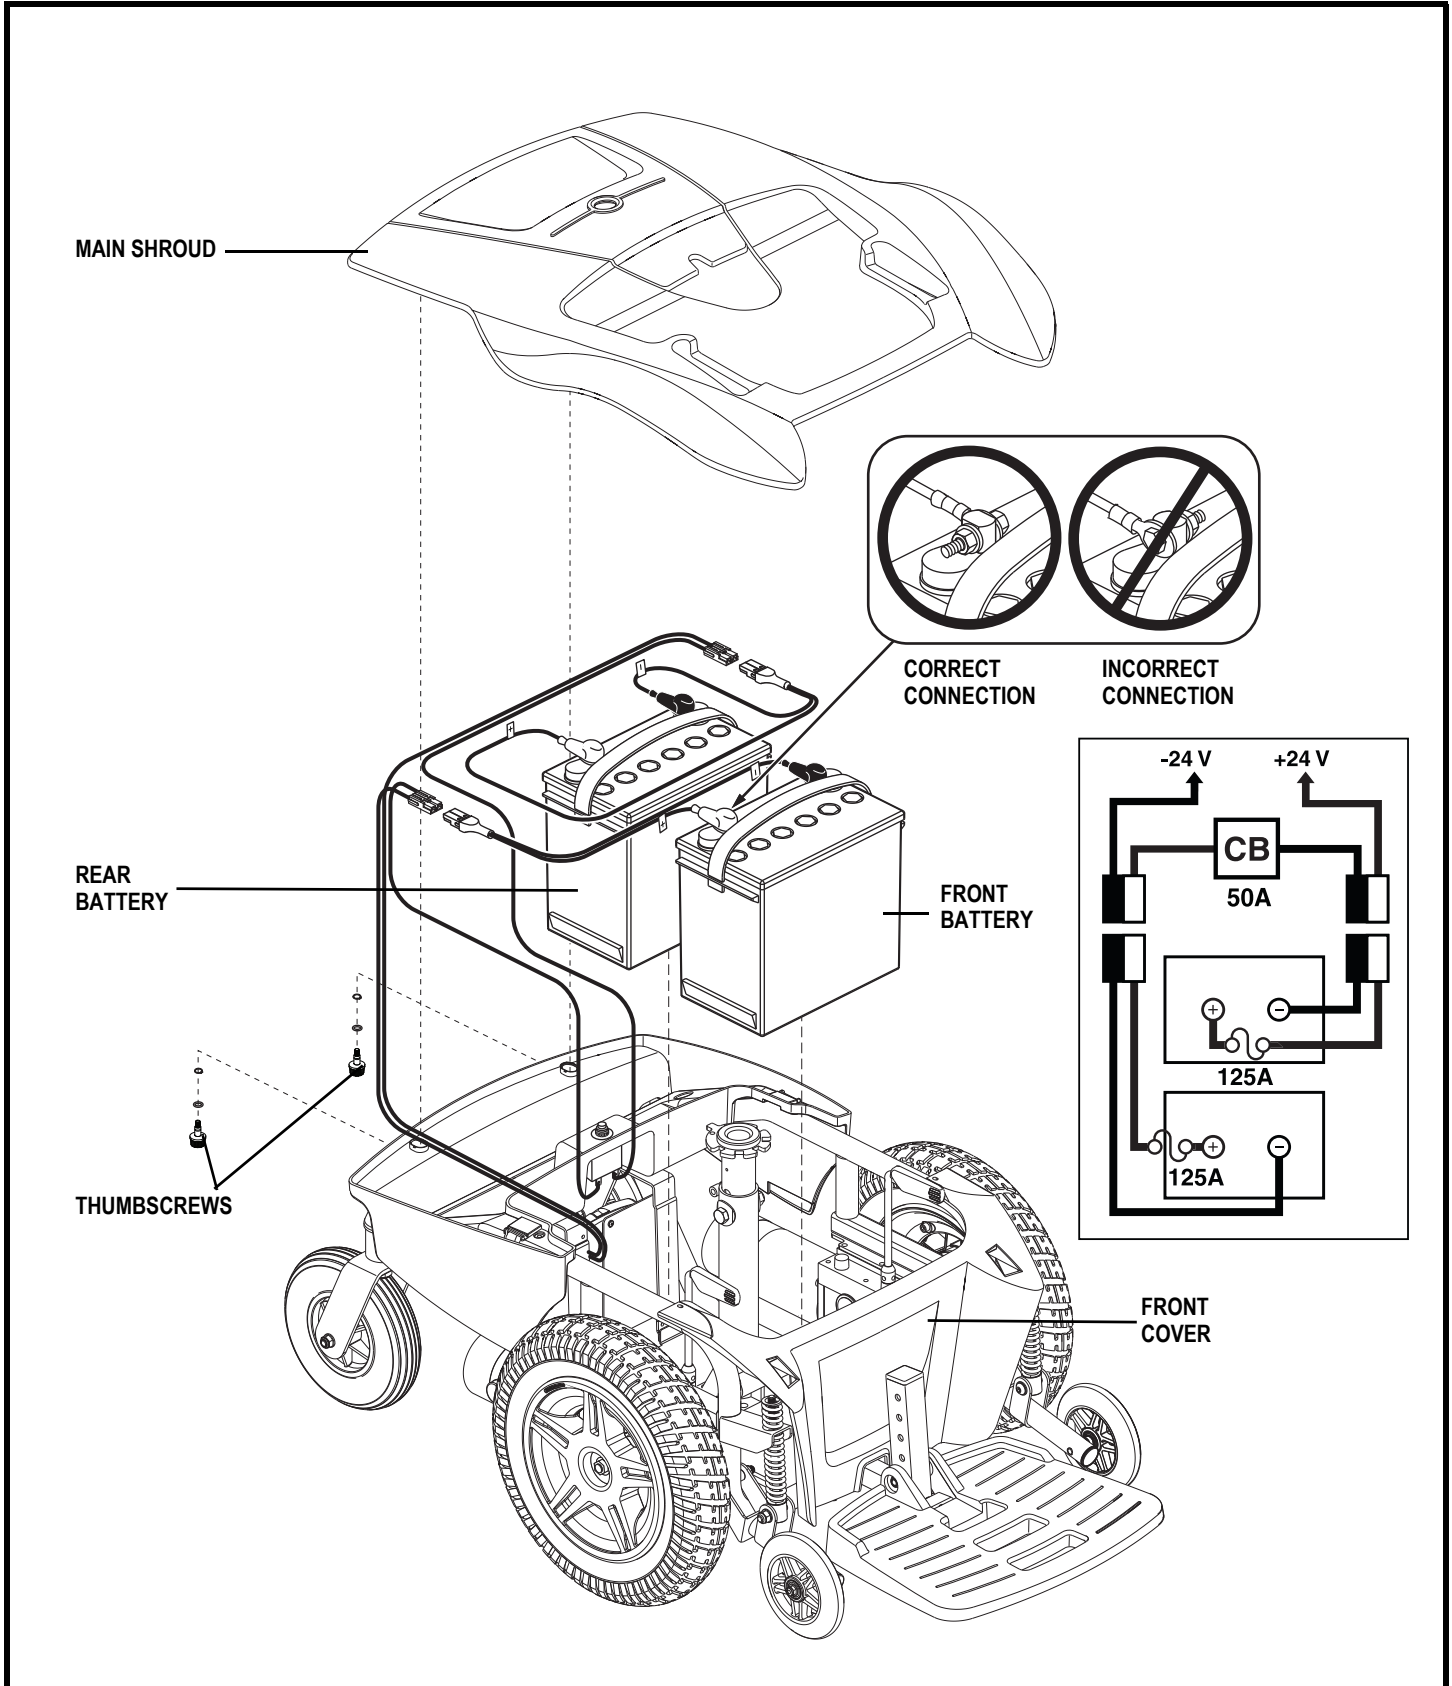

Figure 22. Battery Installation (Seat Must be Removed to Perform This Procedure)
7. Loosen the thumbscrews from the main shroud. See figure 22.
10. Disconnect the battery cables from the terminals of each battery. See figure 22.
12. Install new batteries into the power base. Make sure the terminals of each battery are facing the rear of the power chair. See figure 22.
13. Connect the front battery cable to the front battery terminals according to the battery wiring diagram. Make sure that the battery terminal hardware is facing the correct direction. See figure 22.
14. Connect the rear battery cable to the rear battery terminals according to the battery wiring diagram. Make sure that the battery terminal hardware is facing the correct direction. See figure 22.